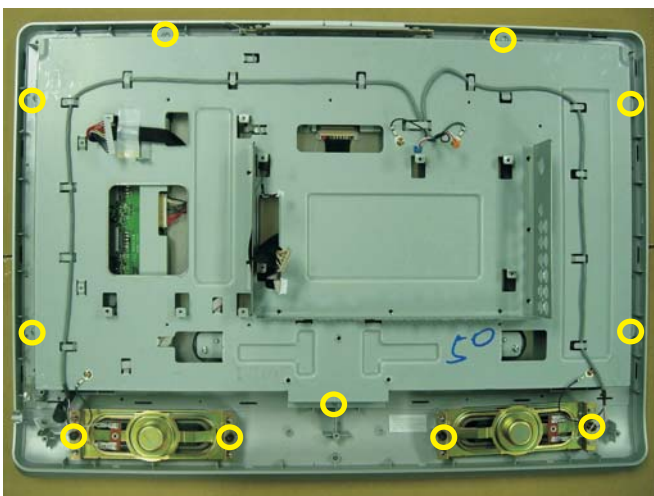

Fig.12
- Remove the screws as shown in Fig.12